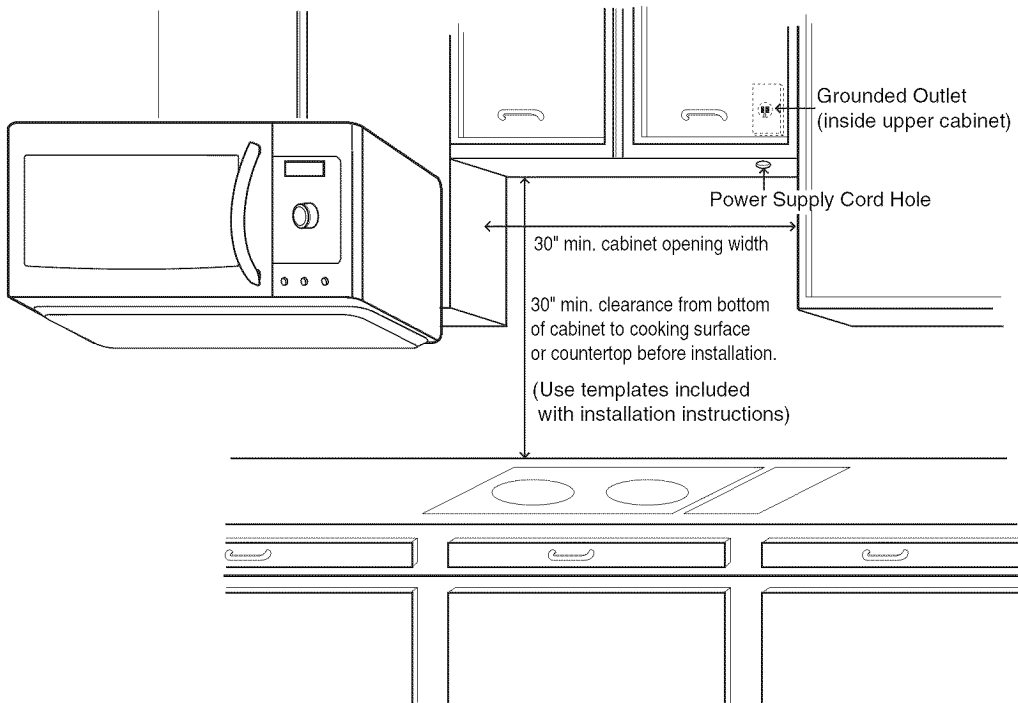

Figure 4
- BE SURE you have enough space. See **Figure 4** below for minimum vertical and horizontal clearance.